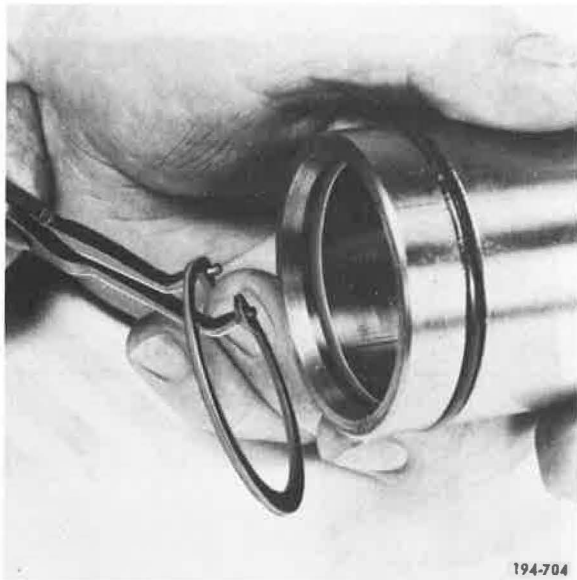

Figure 258. Installing Snap Ring
8. Install snap ring into inside of Lo/Hi range piston, using snap ring pliers J-24339 or equivalent. See Figure 258.